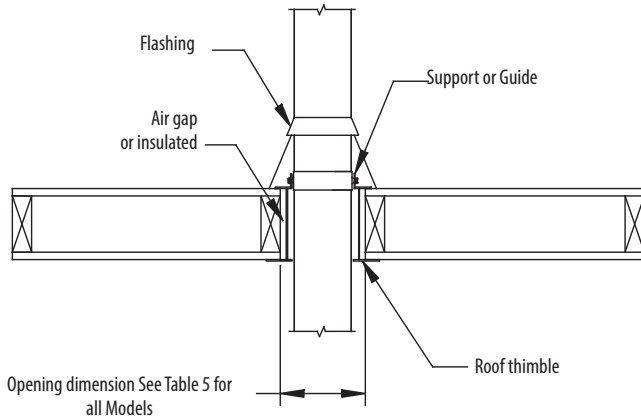

Figure 3 - Roof penetration
1. A roof thimble (RT) or roof thimble insulated (RTI) for cold climate must be installed every time the vent system passes through a floor or roof.
3. Install the roof thimble. You may cut the radiation sleeve if it is too long. See Figure 3.